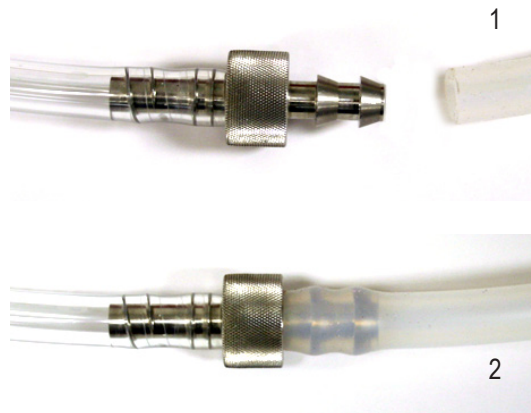

Figure 10. Attaching the suction line to the pump tubing.
- a. First, screw the threaded end into the suction line until the flat surface is flush against the suction line (Figure 10).